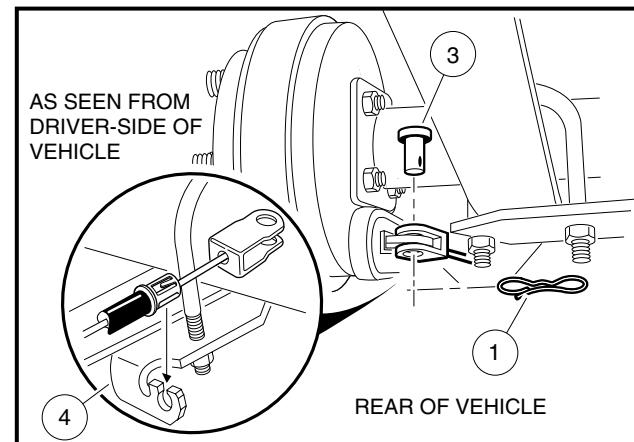

Figure 16b-8 Brake Cable Assembly
6. Disconnect the shock absorbers from their lower mounts (**Figure 16b-9, Page 16b-7**).